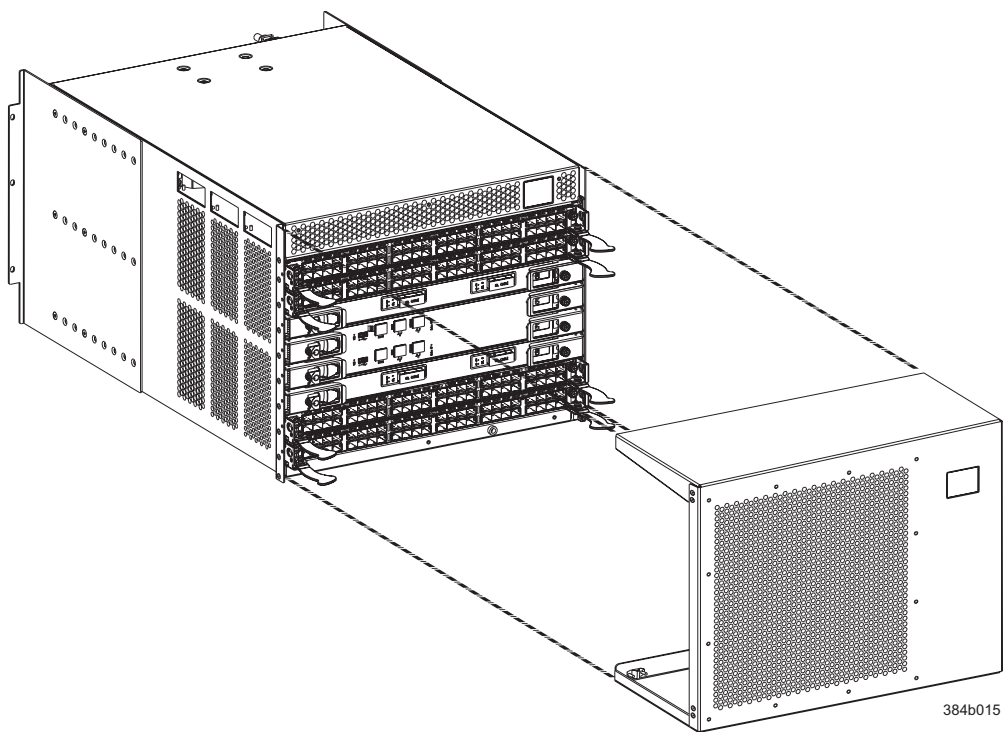

Figure 31. Chassis door
2. Push the door into place. It will snap onto the studs. See Figure 31 on page 68.